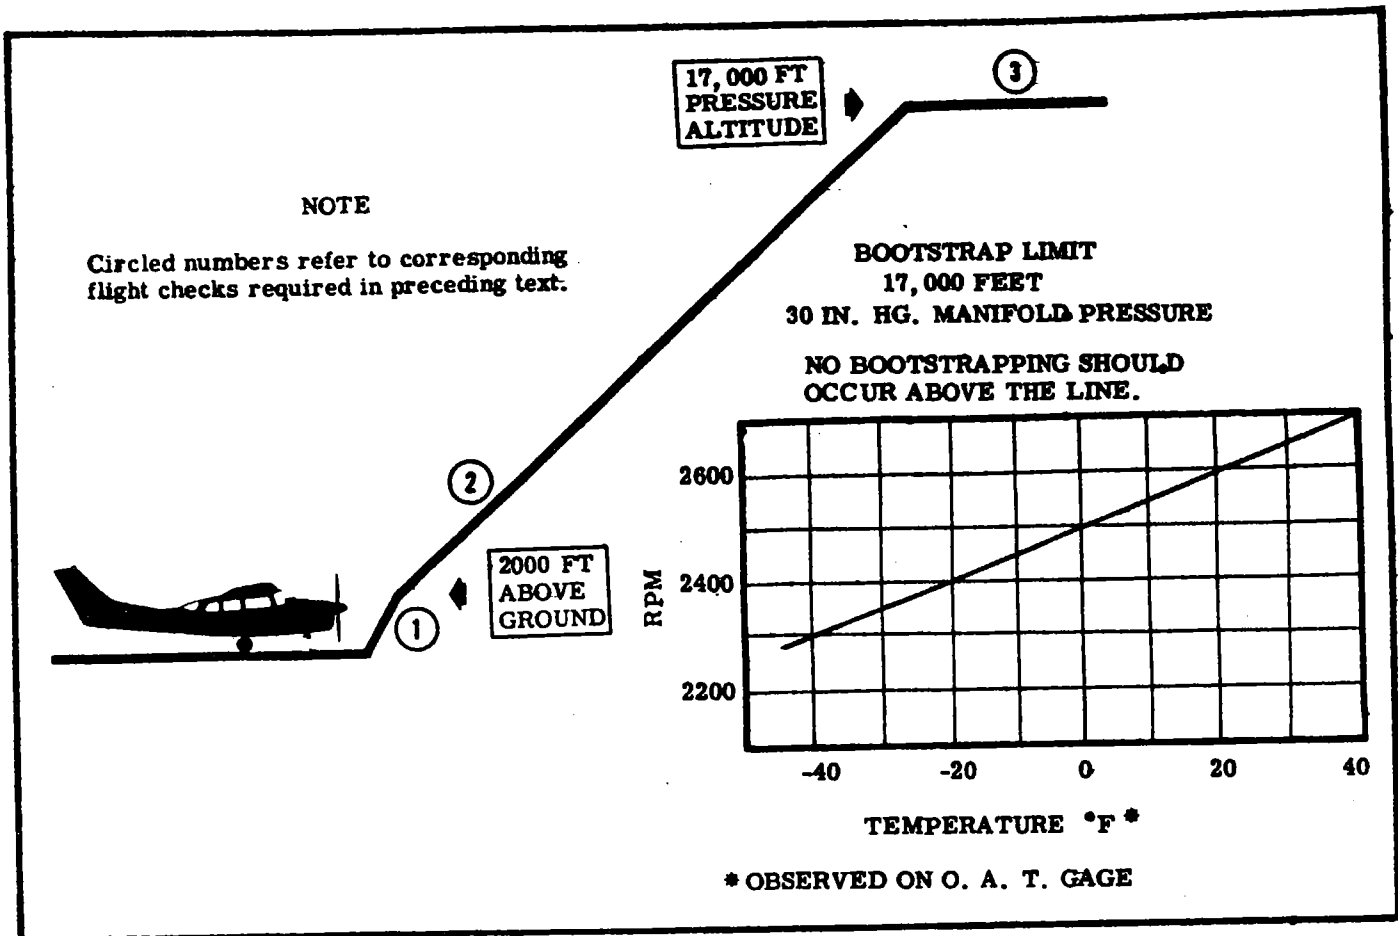

Figure 12A-7. Operational Flight Check
If the waste gate closes at engine speeds lower than shown on the chart in figure 12A-7, the turbocharger performance is normal. If the waste gate closes at engine speeds higher than shown in figure 12A-7, refer to the trouble shooting chart in paragraph 12A-107.
- (2) Note outside air temperature and RPM as manifold pressure starts to drop, which should be in accordance with the chart in figure 12A-7.
- (3) After noting temperature and RPM, increase engine speed 50 RPM to stabilize manifold pressure, with the waste gate modulating exhaust flow to control compressor output.
12A-110. ABSOLUTE CONTROLLER ADJUSTMENTS. (Refer to figure 12A-8.)